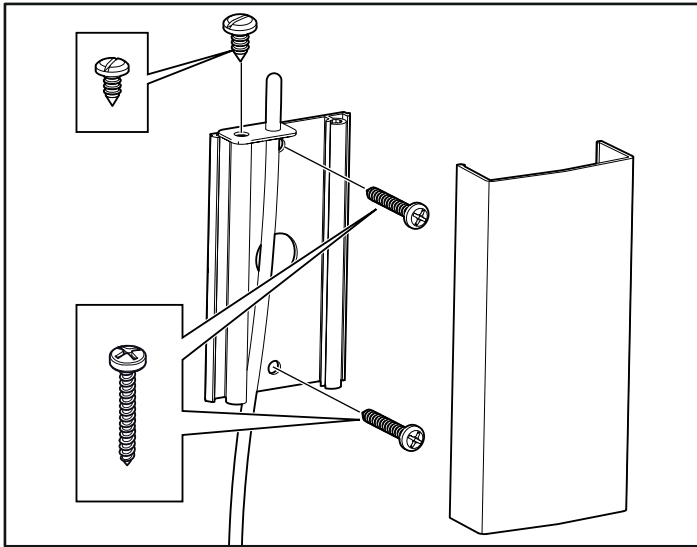
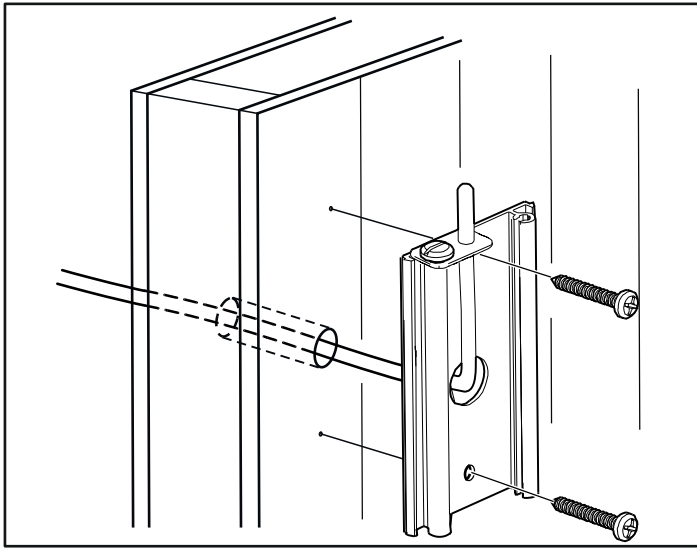

Figure 15: Installing the sensor
Figure 16: Wiring through the wall.
- Install the sensor on the wall see Fig 15. The thermistor wire may also be passed through the wall. Seal any holes in the wall behind the sensor, see Figure 16, page 14. The thermistor wire may be extended outside the sauna using low voltage wire (2-lead).